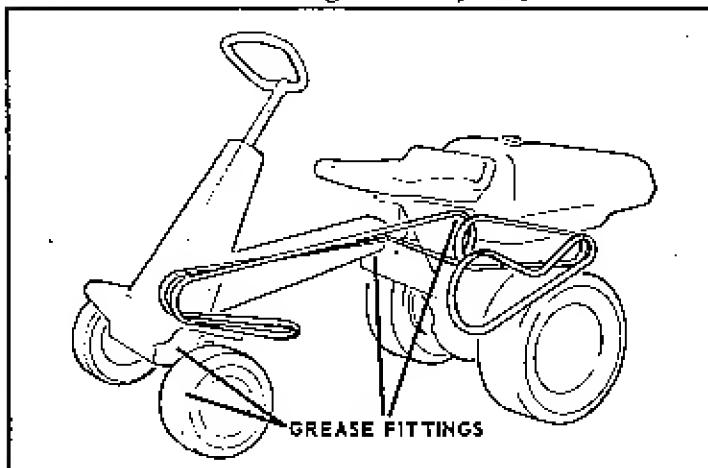

FIGURE 2
3. Apply a shot or two of grease to the two front wheel spindle housings, wheel hubs, transmission input pulley and intermediate pulley assemblies (Fig. 2).
2. Grease all fittings every 5 hours of use. See Fig. 2